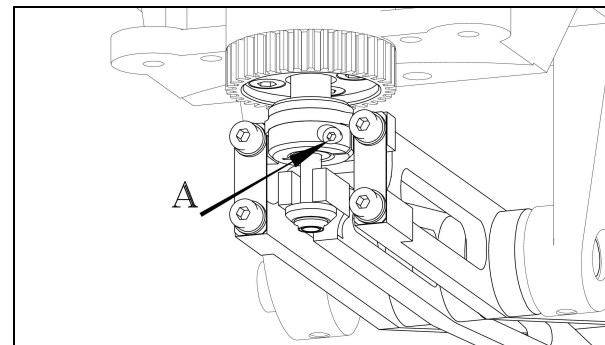

Fig 2
Before adjusting the loopers, check for excessive movement in the area of the split collar yoke, as shown in Fig 2. Loosen screw (A) and tighten the yoke just enough to remove any movement. *Do not overtighten or it will create a bind as the machine goes around the eye.*